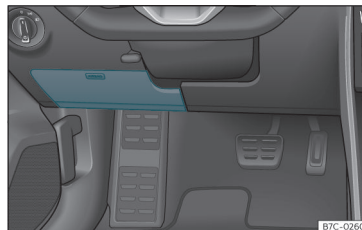

Fig. 45 Left hand drive vehicles: fuse box cover under the driver's side dashboard
- **Open:** fold the cover down»» **Fig. 45**.